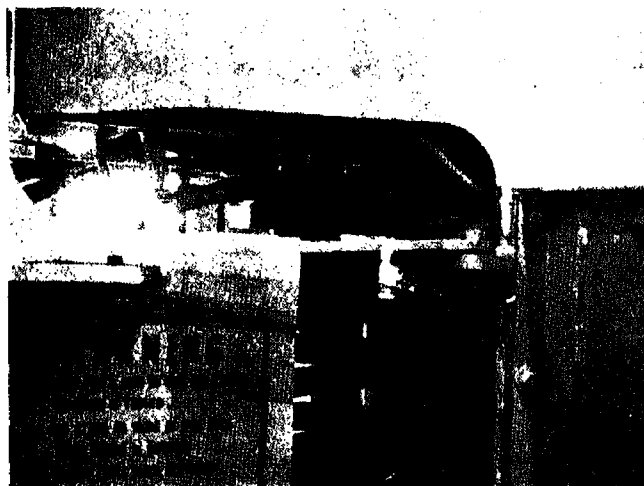

Fig. 5. Safety Links — Locked Position
**Purpose:** The safety links when installed (See Fig. 5) provide a means of locking both frame sections stationary to permit work to be performed between the frame sections without causing injury to personnel. The safety links must also be installed when the unit is to be transported by truck from one job site to another. Store safety links as far forward on block as possible to prevent contact with rear section of truck when in turned position.